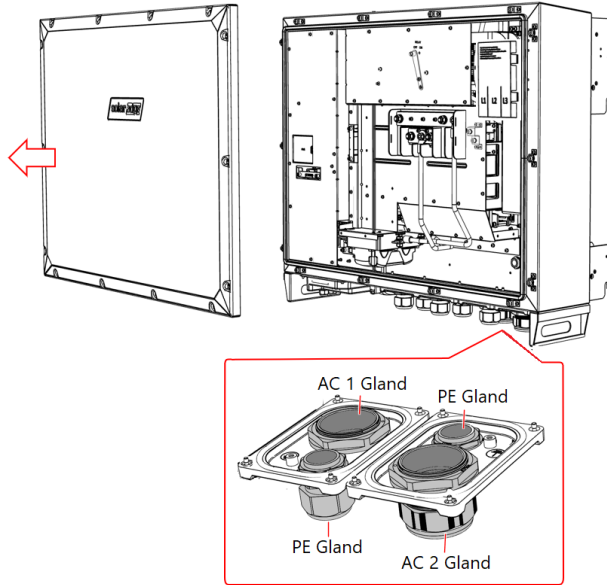

Figure 25: Inverter cover and AC panels
1. Release the Allen screws that secure the front cover to the inverter and carefully remove the cover (see *Figure 25*).
2. Remove the nut from Protective Earth (PE) gland and insert the PE wire through the PE gland (see *Figure 25*).
5. Remove the nut from AC 1 and AC 2 cable glands (see *Figure 25*) and lead the cables through the AC glands.